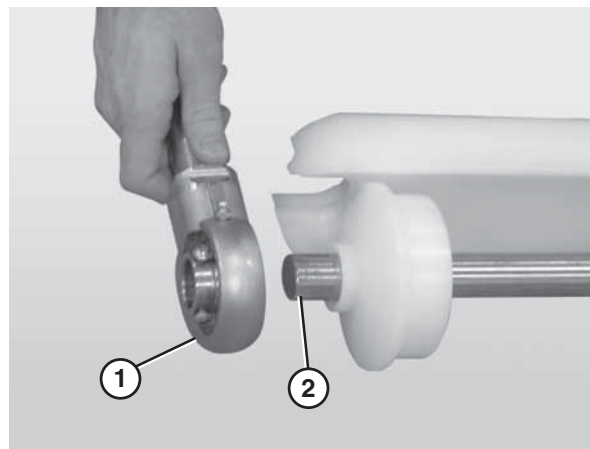

Figure 77
- Slide the bearing shaft assembly (Figure 77, item 1) off the idler shaft (Figure 77, item 2).